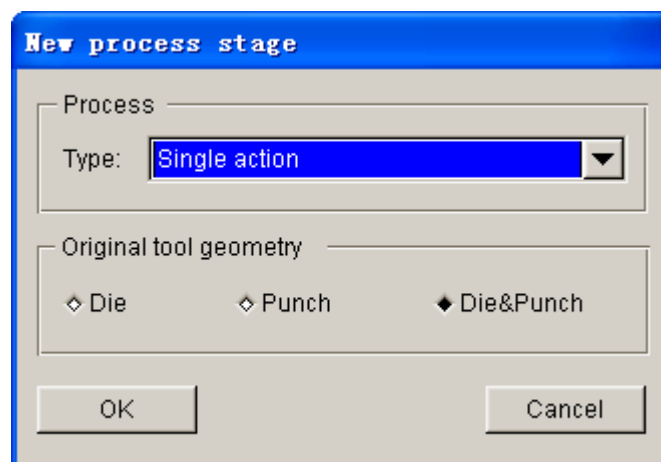

Figure 8.2.13 New Process Stage dialog box
-  : Click on this button to add new stage. The dialog box illustrated in Figure 8.2.13 is displayed.